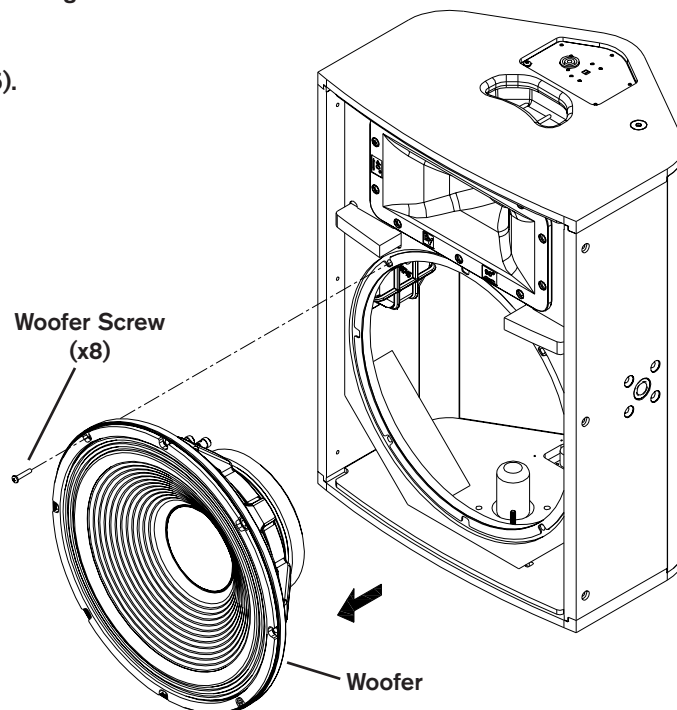

Figure 6: Removing the Woofer from the Enclosure
2. Remove the (4) screws that attach the woofer to the enclosure, and disconnect the wires that attach the woofer to the input panel (Figure 6).
4. Reconnect the wires that attach the woofer to the input panel (reverse of Figure 6). The red wire corresponds to the positive terminal, and the red and black wire corresponds to the negative terminal. Reattach the woofer to the enclosure using the (4) screws.